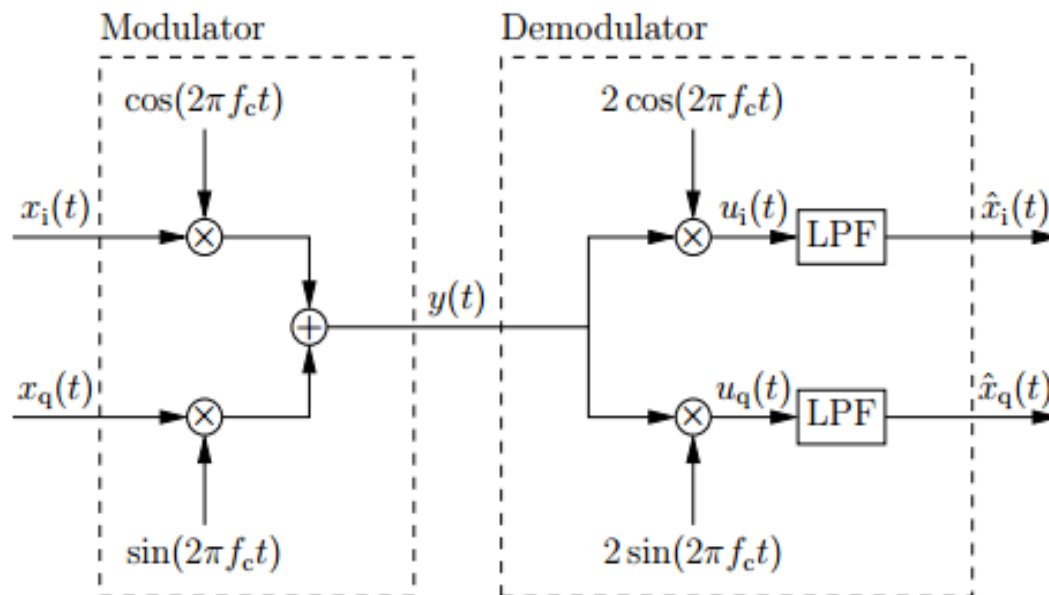

Figure 1. QAM signal processing.
- Task 1: By inspecting Figure 2 from the link provided, briefly comment on the hardware components of the USRP. From this figure, it can be seen that the signal is divided into I and Q phases and is then processed. Relate the signal processing to the QAM modulation/demodulation shown in Figure 1.